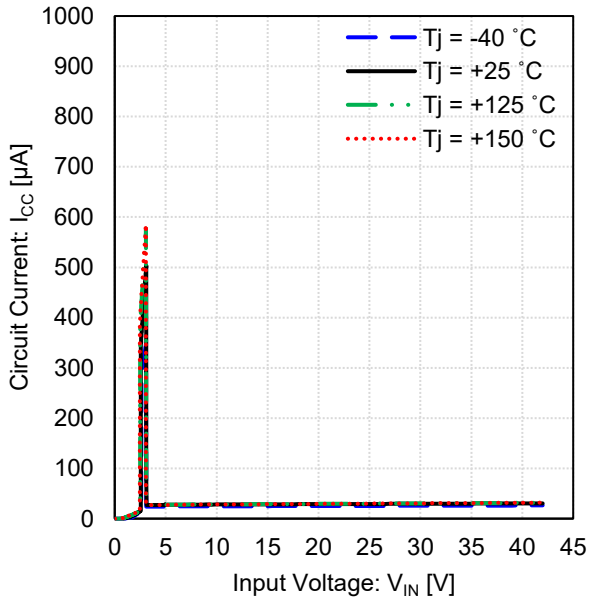

Figure 29. Circuit Current vs Input Voltage (3.3 V output)
*magnification of Figure 29 at narrow range circuit current (3.3 V output)